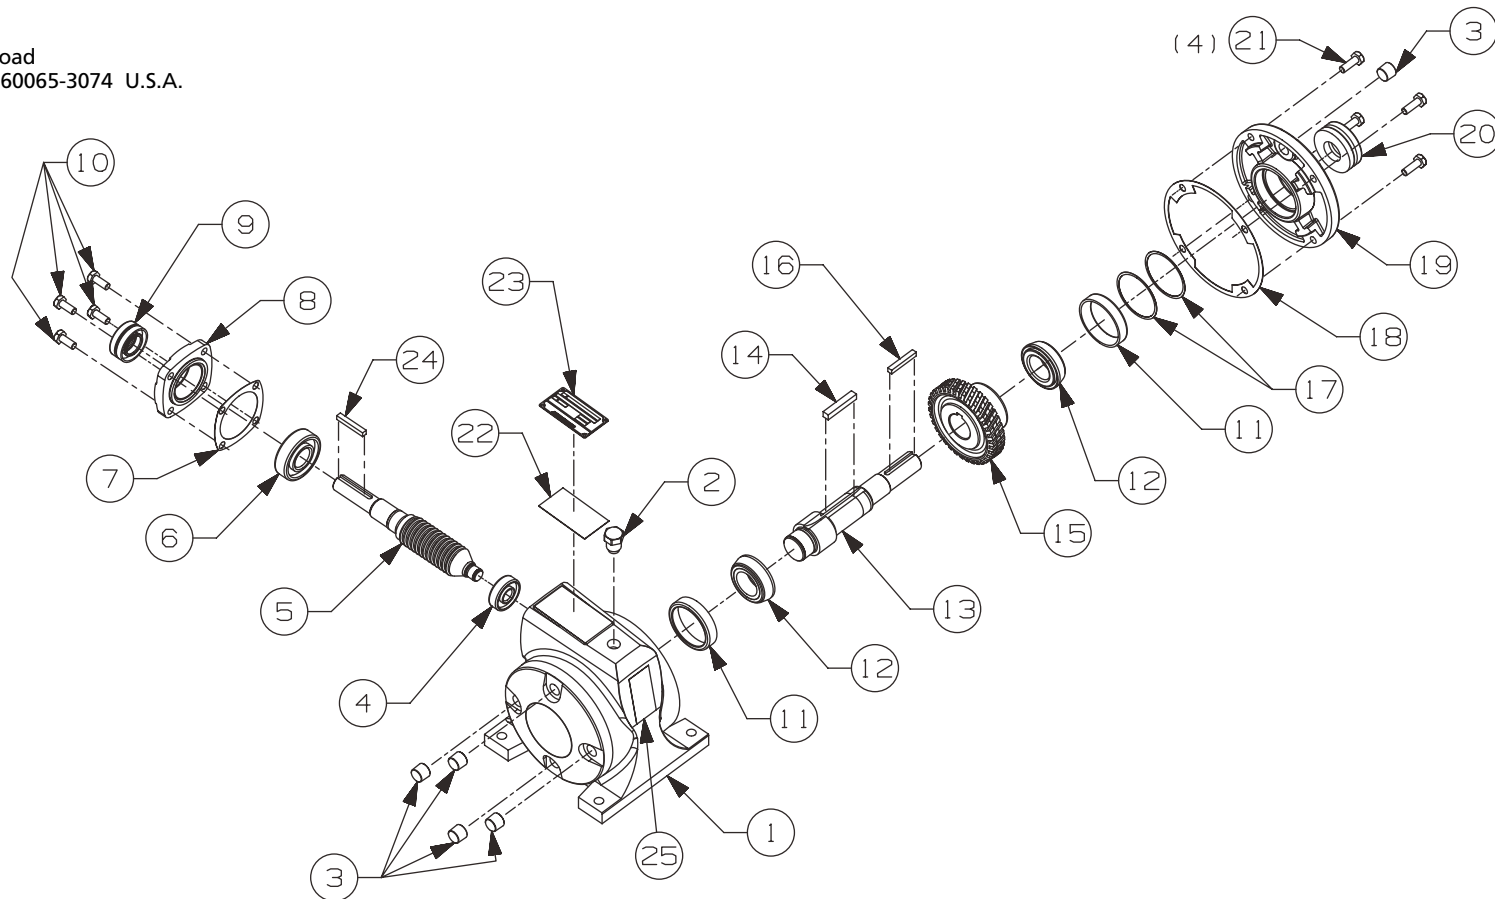

Figure 5 – Repair Parts Illustration
- Reassemble unit, beginning with the same shim stack thickness behind the bearing cup in the housing cover as before. Oil seal (Ref. Figure 5 No. 20) should be removed from cover until shimming process is completed and rotation checked to avoid damage to seal from possible repetitious disassemblies of cover.
- Install new gasket (Ref. Figure 5 No. 18) if required.
- As the capscrews (Ref. Figure 5 No. 21) holding the housing cover (Ref. Figure 5 No. 19) are being tightened, pull shaft back and
- b. The oil seal in the bearing cap assembly (Ref. Figure 5 No. 9) is preassembled in the cap. Use bearing grease to coat seal surface on shaft for initial run and pack same grease between lips on seal and on side of seal towards inside of unit.
- 5. If unit has been disassembled and no parts including the gasket (Ref. Figure 5 No. 18) have been replaced, no change in the shim stack (Ref. Figure 5 No. 17) should be required unless due to wear on parts. (Check end play before disassembly).